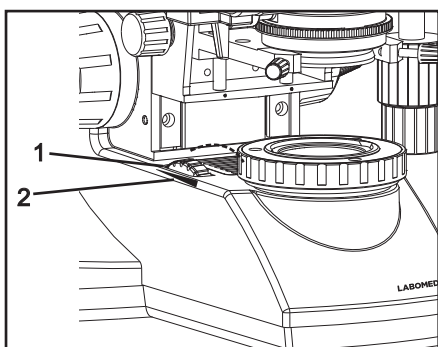

Fig 14
2. Rotating the light intensity adjustment knob in Figure 14 (1) in the direction of the arrow increases brightness and rotating knob in the opposite direction decreases brightness. The intensity bar next to the knob in Figure 14 (2) indicates the direction of intensity level.